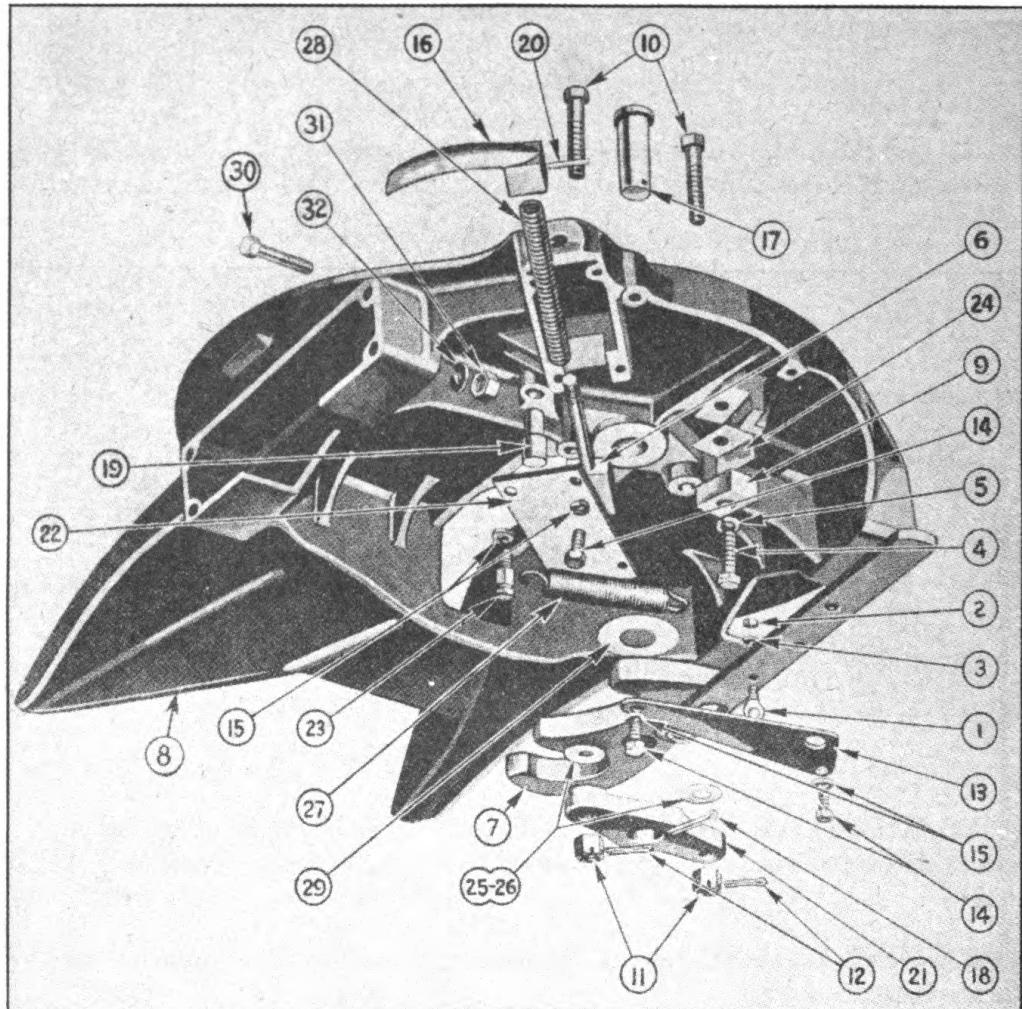

FIGURE 49. COUPLER—EXPLODED
4. **TESTING AND CORRECTING PLAY IN HOOK** (Figure 49).—
*a.* If the hook pin (17) becomes worn, the coupler will develop an excessive "slap" and lost motion. The following repairs may be made with coupler attached to converter gear.
(2) **Hook** (Figure 49): (a) **Removal:** 1. Remove cotter pins (12 and 18) and nuts (11).
5. Lift the shims (25 and 26) off bolts (10) and lift the hook (7) out.
(b) *Replacement* (Figure 49): 1. Place a light film of grease around pin (17), over washers (29), and on the surface of hook plate.
2. Place washers (29) over hook pin (17).
3. Place hook (7) over hook pin (17).
4. Place shims (25 and 26) over bolts (10).
5. Place hook plate (21) over hook pin (17) with the embossed surface down and install the two nuts (11) on the bolts (10).
6. Install the eye bolt (1) to hook handle (7).
7. Couple the spring (27) between the eye bolt in hook handle and special hook spring cap screw (23).
9. Install the cotter key (18) through pin (17).
10. Install the two keys (12), place guide plate (13) in position, and tighten, using the two cap screws (14).
- (c) *Installation of hook lock handle* (Figure 49).—1. When performing this operation disconnect converter gear from trailer.
2. Remove the hook lock handle (16) by removing the drive pin (20) which holds it to the threaded lock stem (6).
3. Remove hook spring (27).
4. Remove the hook lock cover plate (22).
5. Put the hook (7) in locked position.
6. Pry down on the hook lock (6) and tap the end of the hook lock stem. The hook lock and lock spring (28) will come out.
(1) Loose mounting bolts or nuts.	(1) Check nuts (11 and 31), tighten (Figure 49).